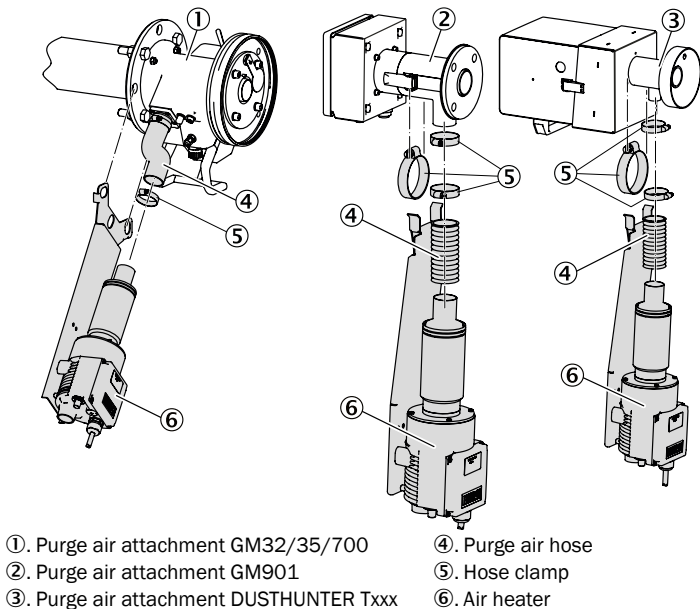

Fig. 1: Assembly for GM32, GM35, GM700, GM901 or DUSTHUNTER Txxx
1. Remove cover ② and connect voltage supply: Wire line ⑤ according to terminal assignment ⑦.
2. Connect purge air monitoring: Wire line according to terminal assignment ⑥ and fit cover ② again.
3. Set temperature controller ③ to minimum and measure purge air temperature at air outlet ①.
4. Set temperature controller ③ so that the desired purge air temperature is reached. See temperature curve on cover ②.
5. Fit the purge air hose to the measuring device to air outlet ① on the device side and tighten with a hose clamp (40 ... 60 mm).
6. Fit the air heater on the measuring device using an assembly bracket, see Fig. 1:
8. Fit the purge air hose to the air inlet of air heater ④.